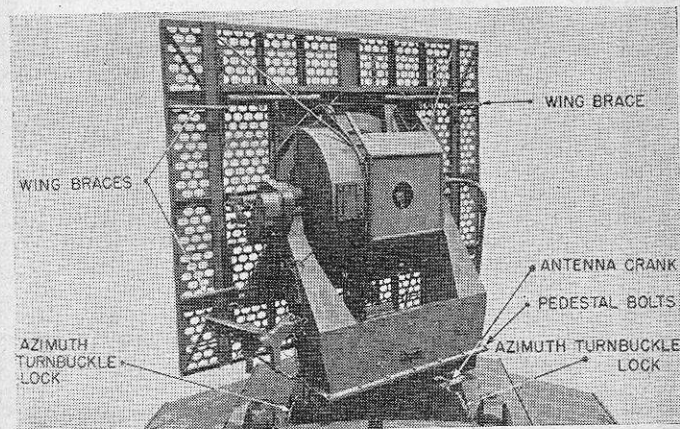

FIGURE 28.—Rear view of antenna.
j. Operate the antenna crank (fig. 28) to raise the antenna to about a three-quarter erect position.